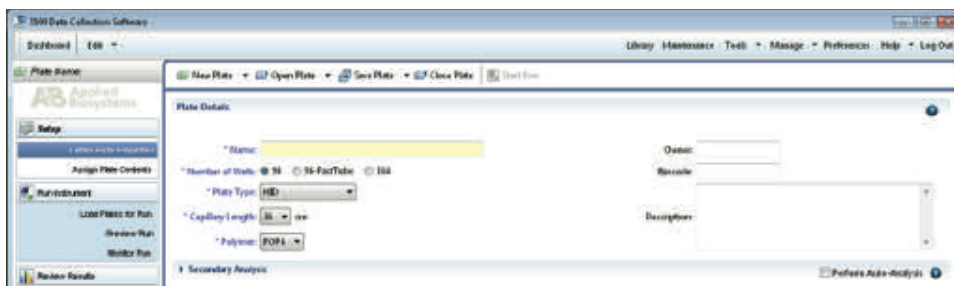

Figure 9. Defining plate properties.
4. Assign a descriptive plate name. Select the plate type “HID” from the drop-down menu (Figure 9).